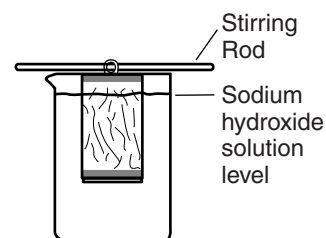

Figure 1.
- Rest the pencil or stirring rod on the rim of a 600-mL beaker so that the can hangs down into the beaker. Working in a fume hood or a well-ventilated lab only, pour 250 mL of 2 M sodium hydroxide down the sides of the can into the beaker. (See Figure 1.) *Note:* If a 500-mL beaker is used, the can will sit on the bottom of the beaker. Although the can will not “hang,” the stirring rod should still be kept in place for easy removal of the can from the beaker.
- The can may be displayed in a 1-L beaker as shown in Figure 1 (without the sodium hydroxide solution).
- The can may be left full for this demonstration. In this case, skip steps 2 and 3 of the procedure. Bend the tab by turning it 180° so it is positioned over the can mouth, pull the tab up and bend it backwards until it is bent far enough to put a stirring rod through the hole. *Note:* The weight of the soda in the can may cause pinholes in the plastic, resulting in leakage. Place in a fume hood or behind a safety shield while soaking the full can in the sodium hydroxide solution in case the shell punctures and sprays. Do not use a can that has been shaken, and it is a good idea to tap the top of the can to settle the carbonation before use. Display the can in a beaker (see Figure 1) and use diet pop to make cleanup less sticky.